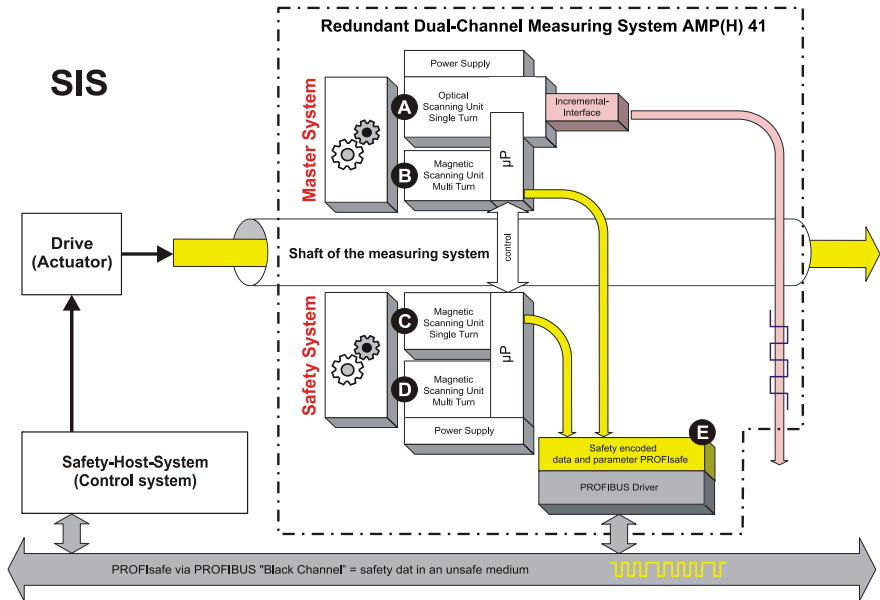

Fig. 1: System diagram
- The measuring system internally compares the positions detected by both channels in two channels, also determines the speed in two channels and transfers the safe data to the PROFIBUS in the PROFIsafe protocol, **see Fig. 1: System diagram "Black Channel" on page 11.**